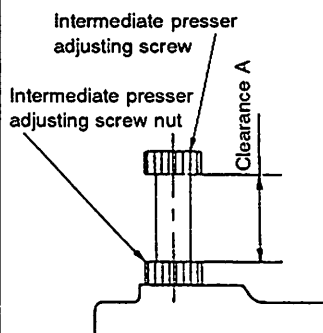
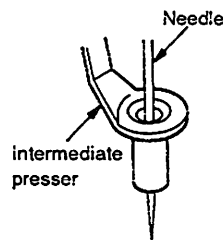
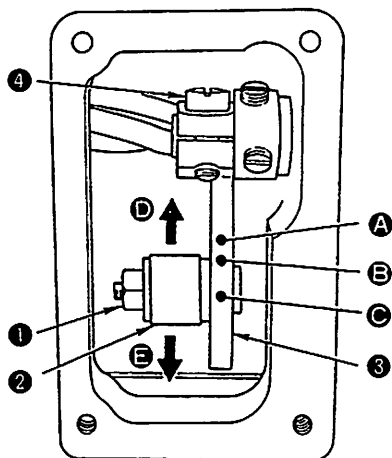
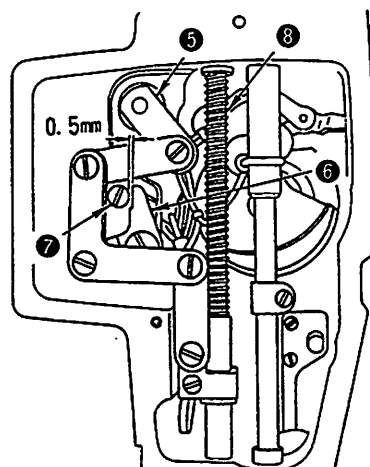

Fig. 5-20-1
Fig. 5-20-3
Fig. 5-21-1
Fig. 5-21-2
- The clearance between the intermediate presser adjusting screw and the nut of intermediate presser adjusting screw should be 10 ± 1 mm for S type model of sewing machine or 5 ± 1 mm for H or G type one. (Fig. 5-20-1)
- The needle should enter the center of the hole in the intermediate presser. (Fig. 5-20-3)
<p>1) Adjust so that the clearance between the intermediate presser adjusting screw and the intermediate presser adjusting screw nut is 10 ± 1 mm. (Fig. 5-20-1)</p> <p>○ Loosen intermediate presser bracket clamping screw ①, and adjust the intermediate presser rod so that it projects 19 ± 0.2 mm from the top end of the intermediate presser bracket for S type model of sewing machine, or 2 ± 0.2 mm for H or G type one (Fig. 5-20-3) and that the needle point enters just the center of the hole in the intermediate presser. Now, tighten intermediate presser bracket clamping screw ①. (Fig. 5-20-3)</p> <p>2) Loosen intermediate presser cam setscrew ②, and make the adjustment referring to the "STANDARD ADJUSTMENTS (20-2)." Then tighten setscrew ②. For S or H type model of sewing machine, align the marker line engraved on the intermediate presser cam with the marker dot engraved on the main shaft in terms of the normal direction of rotation. For G type one, align the marker line with the marker dot on the main shaft in terms of the reverse direction of rotation.</p> <div data-bbox="232 727 796 1120" style="border: 1px solid black; padding: 5px;"> <p>At the time of delivery, the marker dot is aligned with the marker line and the intermediate presser reaches the lowest position of its stroke at the time when the needle bar reaches the lowest position of its stroke. Move the marker line in direction ④, and the intermediate presser will reach the lowest position of its stroke earlier than the needle bar will reach its lowest position. On the other hand, move the marker line in direction ⑤, and the intermediate presser will reach the lowest position of its stroke later than the needle bar. By making this adjustment, the optimum timing can be obtained in accordance with the type of material to be sewn.</p> </div> <p>(Fig. 5-20-4)</p> <p>3) When making the adjustment described in step 2), adjust intermediate presser cam and the end face intermediate presser rod referring to the "STANDARD ADJUSTMENTS (20-3).</p> <p>4) Loosen setscrew ④ with the needle bar at its lowest dead point (Fig. 5-21-1), and make the adjustment described in the "STANDARD ADJUSTMENTS (20-4)" by moving intermediate presser oscillating shaft ⑤ with intermediate presser positioning link ③ closely pressed against positioning pin ④. (Fig. 5-20-7)</p> <div data-bbox="319 1431 696 1887"> </div> <p style="text-align: right;">Fig. 5-20-7</p>	<p>1) The intermediate presser may fail to go up after the completion of a sewing cycle.</p> <p>[Caution] Refer to the "RESULTS OF IMPROPER ADJUSTMENT (8)."</p> <p>○ The intermediate presser may fail to go up after the completion of a sewing cycle. The round cornered section in the top end of the intermediate presser bar may enter the intermediate presser bar lower bushing while the intermediate presser goes up, resulting in an oil leak. The needle may fail to enter the center of the hole of the intermediate presser. As a result, a loose stitch formation will occur, or the needle will come in contact with the intermediate presser.</p> <p>2) If the timing when the intermediate presser reaches the lowest dead point of its stroke is much earlier than the timing when the needle bar reaches the lowest dead point of its stroke, stitch skipping may occur.</p> <p>On the other hand, if the timing when the intermediate presser reaches the lowest dead point is much later than the timing when the needle bar reaches the lowest dead point of its stroke, loose stitches may be formed or the intermediate presser may be caught in the overlapping sections of the material.</p> <p>3) The intermediate presser cam may be pushed against the intermediate presser rod and the load torque may fluctuate when the main shaft rotates in the normal direction.</p> <p>4) Abnormal noise may occur during machine operation.</p> <p>[Caution] Abnormal noise will be produced especially when intermediate presser positioning link ③ does not adequately come in contact with positioning pin ④. If the machine is kept to operate in this condition, the corresponding parts might break. The specified vertical stroke will not be obtained. (Refer to the "STANDARD ADJUSTMENTS (21).")</p>
Be sure to check the position of the wiper (refer to the "STANDARD ADJUSTMENTS (9)"). If the wiper has become improperly positioned, be sure to readjust its position. (Fig. 5-21-1)
Connecting shaft nut ❶ of the intermediate presser rod should be fixed in the lowest position providing a 0.5 mm clearance between intermediate presser positioning link ❸ and positioning pin ❹ in the highest dead point of the needle bar. (Fig. 5-21-2)
<p>1) Loosen connecting shaft nut ❶ of the intermediate presser rod and move intermediate presser rod ❷ in the direction of arrow ➊ to increase the stroke. Move the rod in the direction of arrow ➋ to decrease the stroke. The standard vertical stroke of the intermediate presser is 4 mm. Use marker dots ➀, ➁ and ➂ as the standard points to make the adjustment. A 6 mm stroke is obtained when the center of the connecting shaft nut of the intermediate presser rod aligns with marker dot ➀. A 5 mm stroke is obtained when the center of the connecting shaft nut of the intermediate presser rod aligns with marker dot ➁. A 4 mm stroke is obtained when the center of the connecting shaft nut of the intermediate presser rod aligns with marker dot ➂.</p> <p>2) Fix connecting shaft nut ❶ of the intermediate presser rod in the lowest position. Bring the needle bar to its highest dead point. Loosen setscrew ❹, and move intermediate presser oscillating shaft ❺ so that a 0.5 mm clearance is obtained between intermediate presser positioning link ❻ and positioning pin ❼. Securely tighten setscrew ❹.</p> <p>[Caution] Make sure that intermediate presser positioning link ❻ does not come in contact with positioning pin ❼, and the intermediate presser oscillating shaft ❺ does not come in contact with intermediate presser spring ❸, when the handwheel is turned by hand to rotate the main shaft. If the machine operates under the condition that the link hits against the pin and the oscillating shaft hits against the spring, breakage of the corresponding parts may result. (Fig. 5-21-1, Fig. 5-21-2)</p> <p>3) Refer to the "STANDARD ADJUSTMENTS (20)-4)."</p>	<p>1) The specified vertical stroke of the intermediate presser will not be obtained.</p> <div data-bbox="969 250 1298 555" style="border: 1px solid black; padding: 5px;"> <p>In order to override the overlapping section of the material, the vertical stroke of the intermediate presser should be made greater. In this case, be sure to remember that floppy material cannot be easily fed if the vertical stroke is too great, resulting in stitch skipping.</p> </div> <p>2) The 0 mm vertical stroke of the intermediate presser will not be obtained.</p> <p>3) Refer to the "STANDARD ADJUSTMENTS (20)-4)."</p>